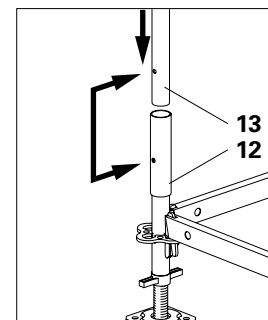

Fig. A2.04c
2. Align the insert holes with each other. (Fig. A2.04c)